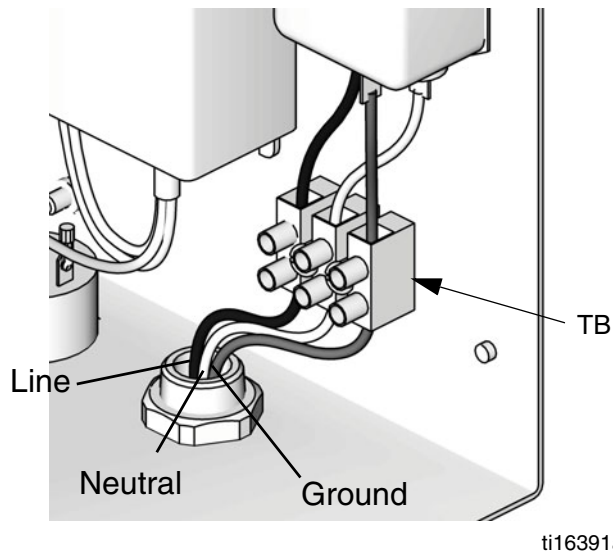

FIG. 1. Terminal Block Electrical Connections
2. See FIG. 1. Disconnect the three input wires from the terminal block (TB). Pull the wires out of the control box and disconnect them at the main power supply panel.